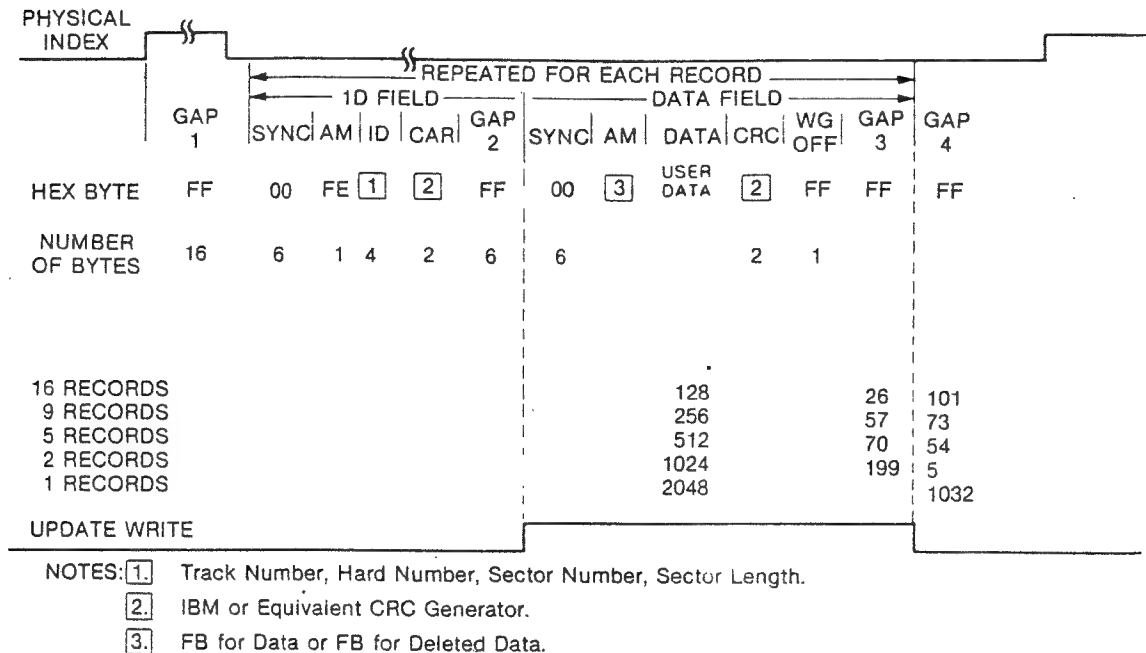
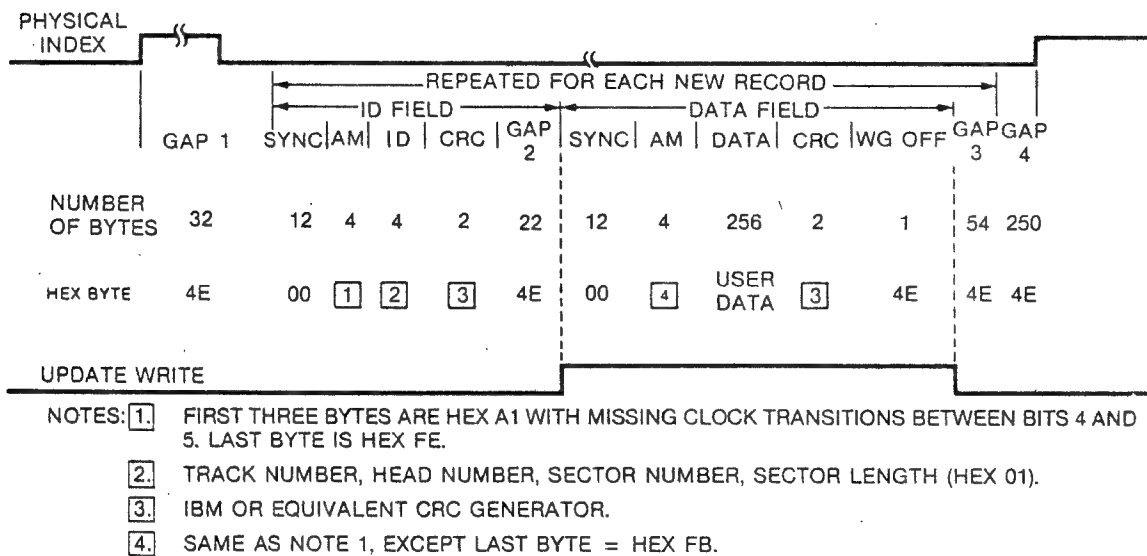

FIGURE 6-3. RECOMMENDED FM SOFT SECTOR SINGLE DENSITY (EVEN BOUNDARIES)
FIGURE 6-4 MFM RECOMMENDED IBM TYPE FORMAT, 256 BYTES/16 RECORDS PER TRACK
In this format, the using system may record one long record or several smaller records. Each track is started by a physical index pulse and then each record is preceded by a unique recorded identifier. This type of recording is called soft sectoring. Figure 6-3 illustrates the recommended single-density (FM) formats. Figure 6-4 shows the recommended double-density (MFM) formats.